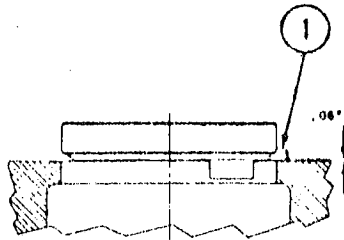

Fig. 13
10. Turn knob (4) counterclockwise and lift the cutter so it is above the top face of the cylinder block. Turn knob (4) clockwise to hold the cutter plate in position. Loosen screw (3) and push the cutter into cutter plate slot as far as it will go, then tighten screw (3). Loosen knob (4) and lower cutter (1) until it is .06" above the top face of the cylinder block (Fig. 13). Tighten knob (4).